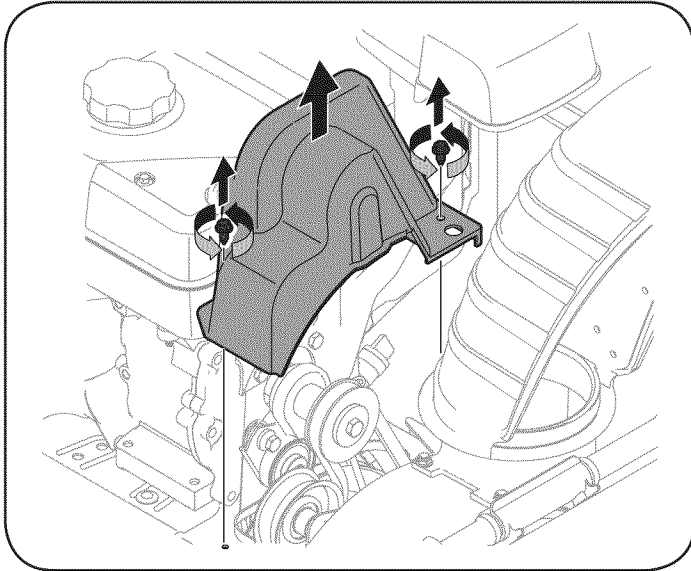

Figure 29
2. Remove the plastic belt cover on the front of the engine by removing the two self-tapping screws. See Figure 29.